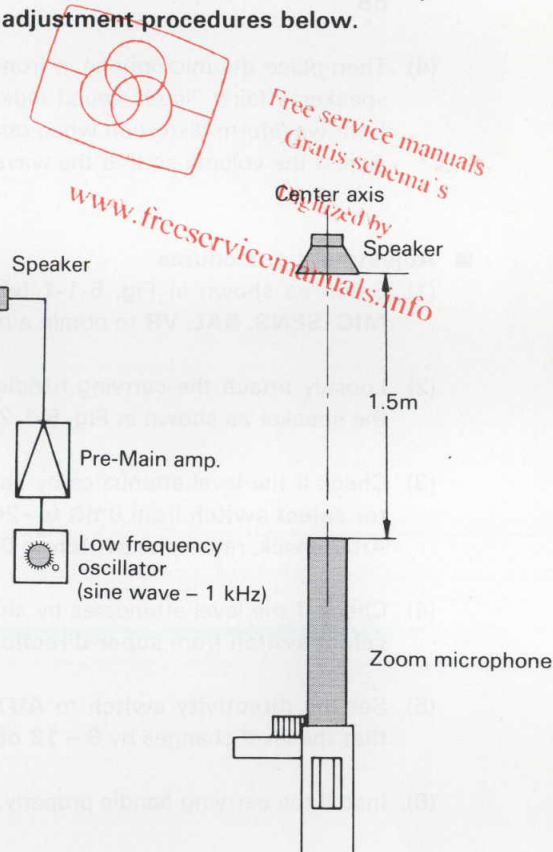

Fig. 5-1-2
- (3) Set the **directivity switch** to **super-directional** () and the **attenuator select switch** to **0 dB**.
- (4) Then place the microphone in front of the speaker as shown in Fig. 5-1-2 and obtain from the speaker a fairly "loud" sound indication by **sine wave – about 1 kHz** (which should be free from waveform distortion when obtained from the sound source.)
- (2) Loosely attach the carrying handle to the camera body and place the microphone in front of the speaker as shown in Fig. 5-1-2.
- (3) Check if the level attenuates by about **15 – 20 dB (0.18 – 0.1 times)** by moving the **attenuator select switch** from **0 dB** to **-20 dB**.